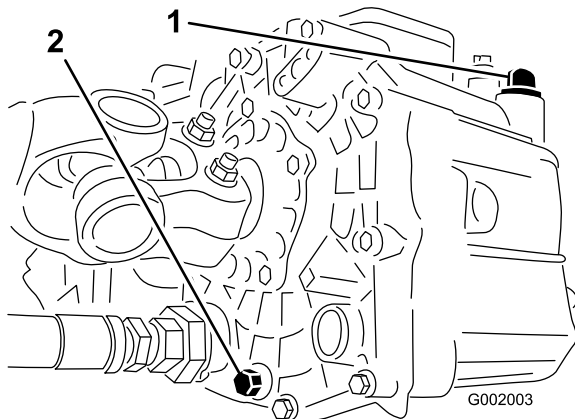

Figure 69
- Remove the drain plug from the side of the reservoir and let the hydraulic fluid flow into the drain pan (Figure 69).